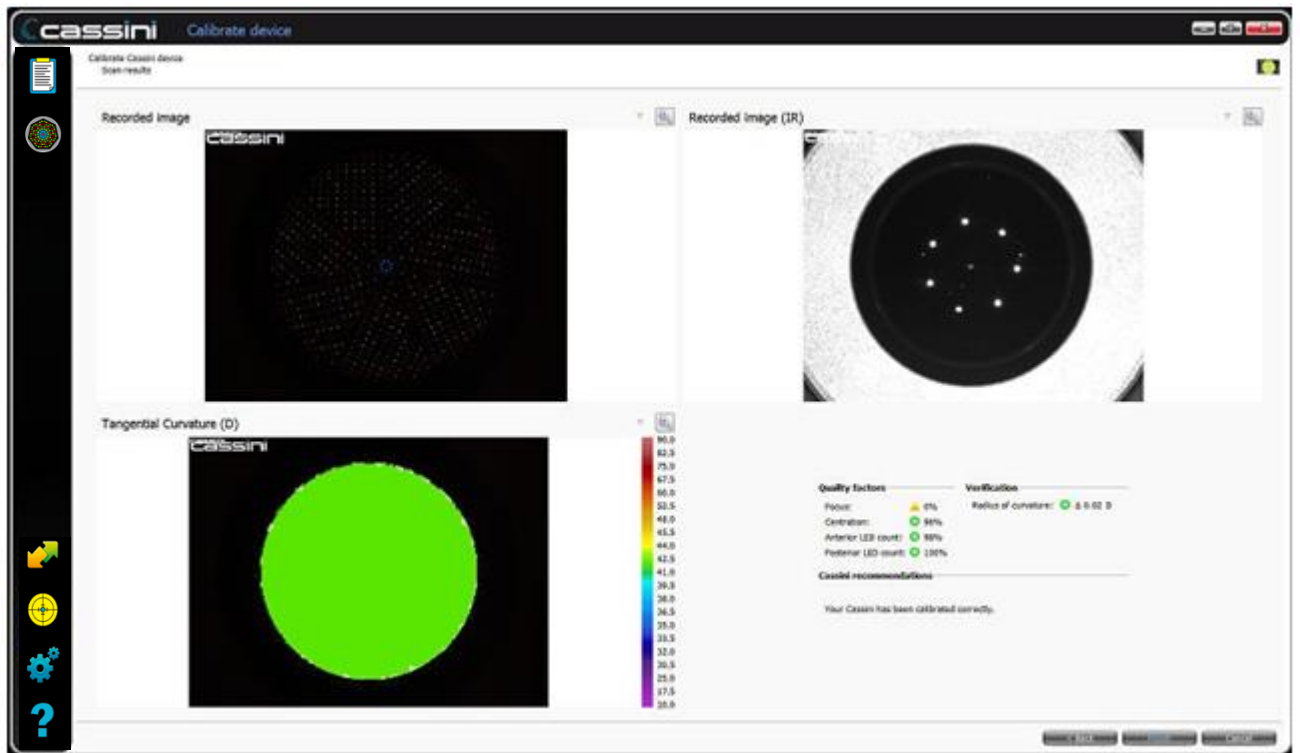

Figure 70
8. Instead of storing the calibration data (step 6), Cassini provides an overview of the calibration data and verifies if the radius of curvature is correct. Cassini recommends if calibration should be stored or if any other action should take place (Figure 70).